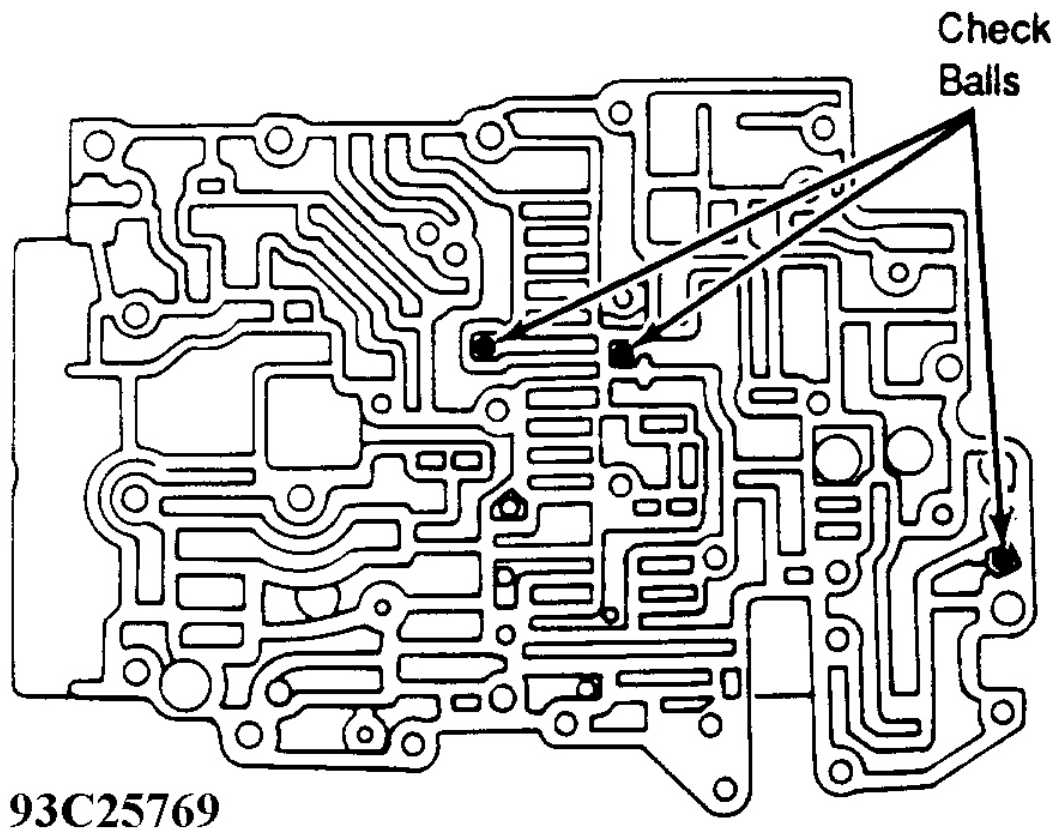

Fig. 36: Locating Lower Valve Body Check Balls
6. Install pressure relief valve and spring. Install check valve and spring. Install 3 check balls. See **Fig. 36**. Install strainer on lower valve body.